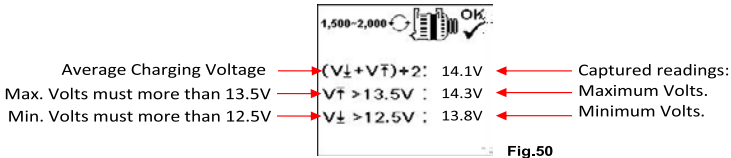

Fig.50
Wait for the countdown from 10s to 0s. As soon as it reaches 0s, the results will automatically display as example shown below (Fig.50).
- Continue from the previous test (either Fig. 50, 51 or 52); the Analyser will automatically proceed to diode ripple test. The display will show as below (Fig.53).